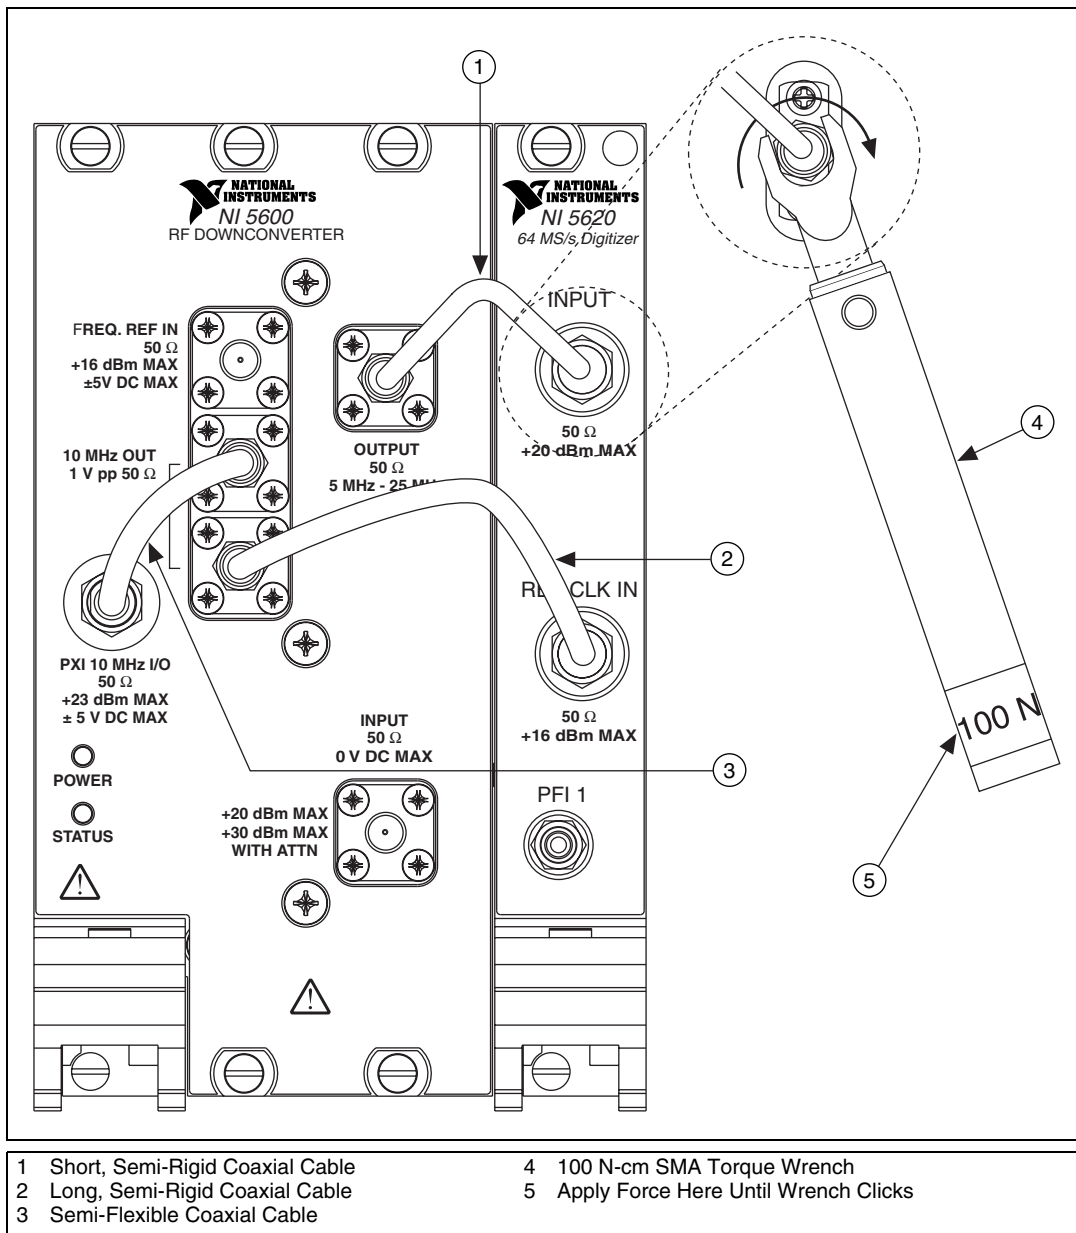

Figure 1-7. Installation of Included Cables
The RF Vector Signal Analyzer hardware modules interconnect through the device front panels using the included coaxial cables. Complete the following steps to interconnect the RF Vector Signal Analyzer hardware module front panel connectors as shown in Figure 1-7.
4. Carefully tighten all SMA connectors to 100 N-cm using an SMA torque wrench (not included) as shown in Figure 1-7. Tighten only until the wrench clicks.
Note The semi-rigid cables must be installed so the bends point upwards, as shown in Figure 1-7.